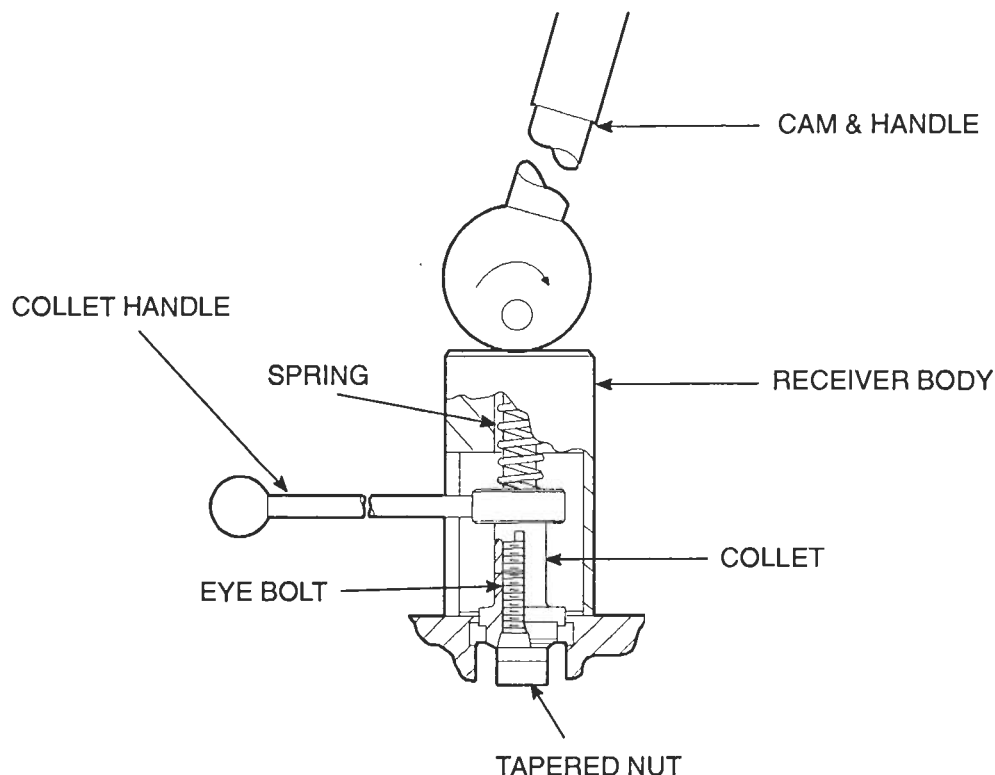

Figure 11. Removing Valve Seat Insert (Method 2)
1. Screw collet handle into collet J 23479–29 (2–valve) or J 23479–30 (4–valve) and assemble in puller as shown (Figure 11.)